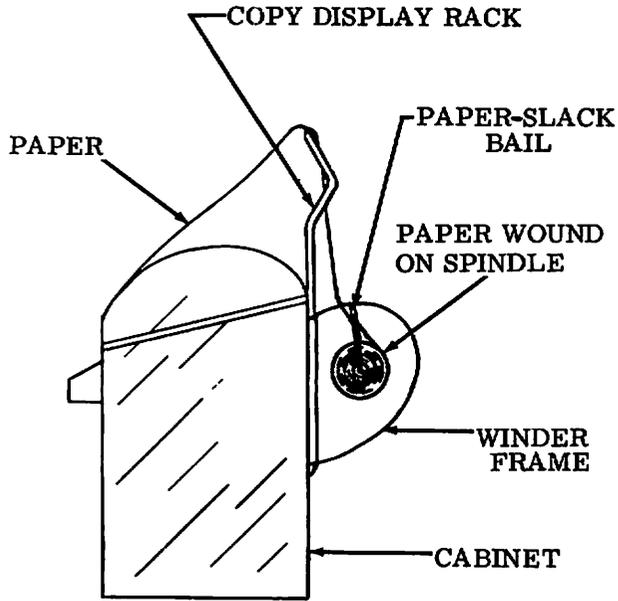

Figure 6 - Path of Paper from Printer Unit to Paper Winder Spindle
3.06 See Figure 6 for path of paper from printer unit to paper winder spindle.